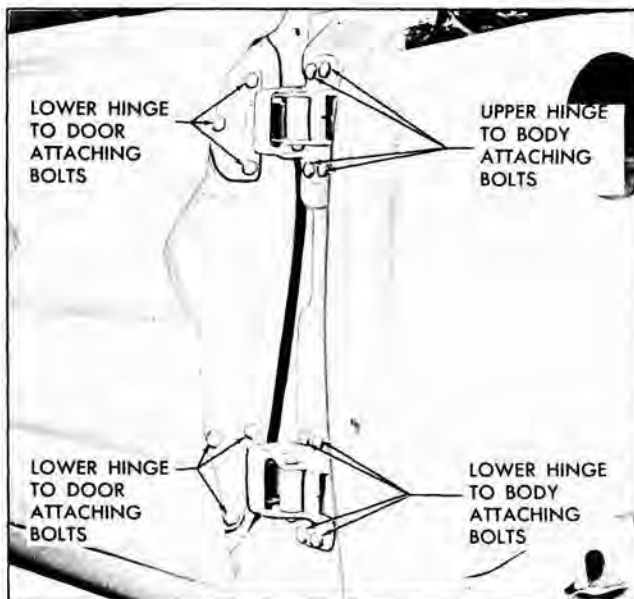

Fig. 3-18 Door Hinge Attachment
5. With door properly supported, remove bolts securing upper and lower hinges to front body hinge pillar or door hinge pillar. Then with aid of helper, remove door assembly from body (Fig. 3-18).
1. For in and out or up and down adjustments, loosen hinge to door pillar attaching bolts (see Fig. 3-18). Adjust door as required and tighten bolts.
2. To adjust door fore or aft, loosen hinge to body pillar attaching bolts (see Fig. 3-18). Adjust door as required and tighten bolts.